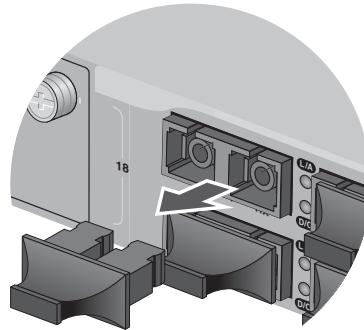

Figure 20. Removing the Dust Covers from the Fiber Optic Ports
1. Remove the dust covers from the ports, as shown in Figure 20.